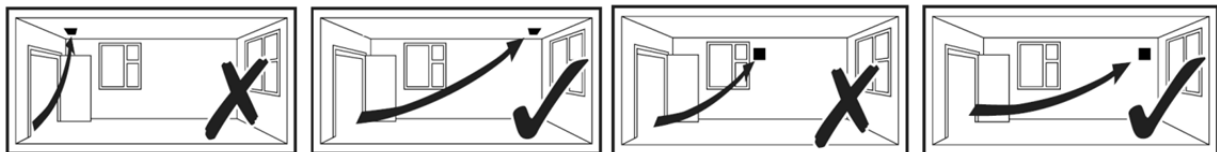

Fig.1: MONS150RE Wired as Extract fan only
1. Select and follow the appropriate wiring diagram. (Fig. 1,2 3 or 4)